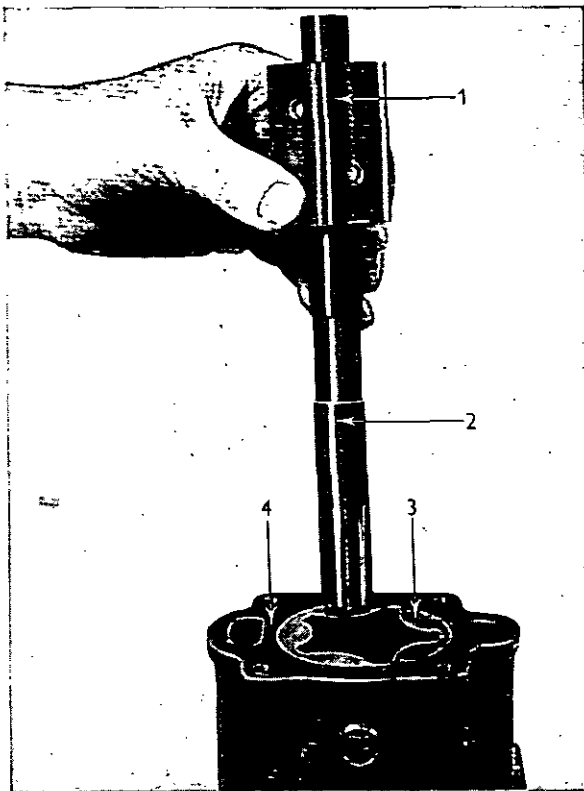

Fig. K.8. Replacing Oil Pump Drive Shaft.
2. Fit the inner rotor and drive shaft (Fig. K.8).